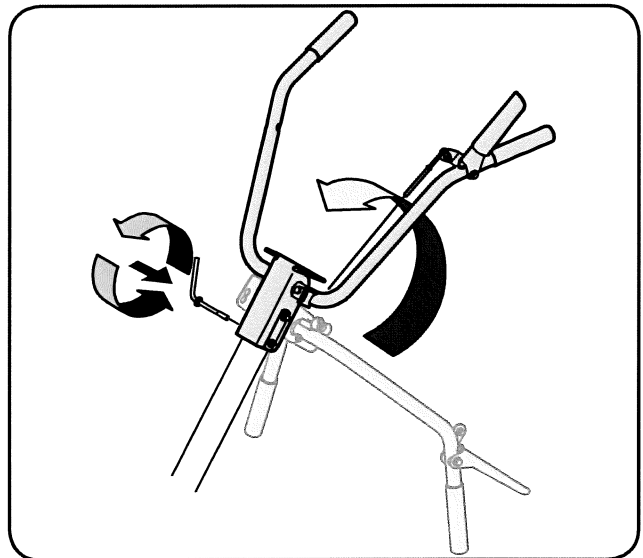

Figure 3-6
3. Remove the handle adjustment crank from the handle. See Figure 3-6.
4. Rotate the handle upward and secure it in place with the handle adjustment crank. See Figure 3-6.